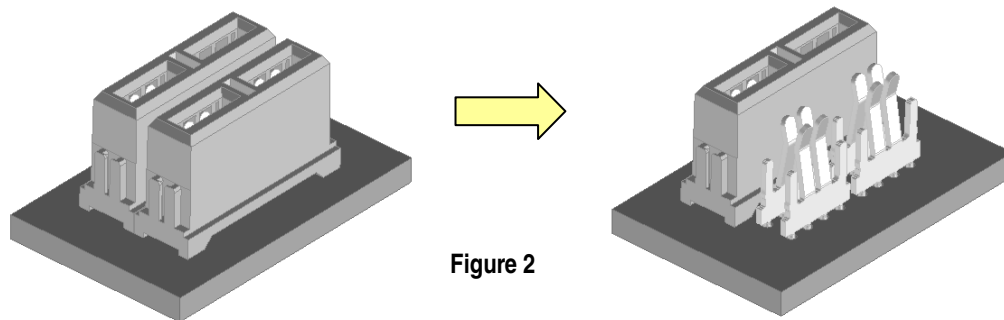

Figure 2
1. Remove the connector housing by gripping it with a pair of pliers and pulling it up from the terminals. See Figure 2.